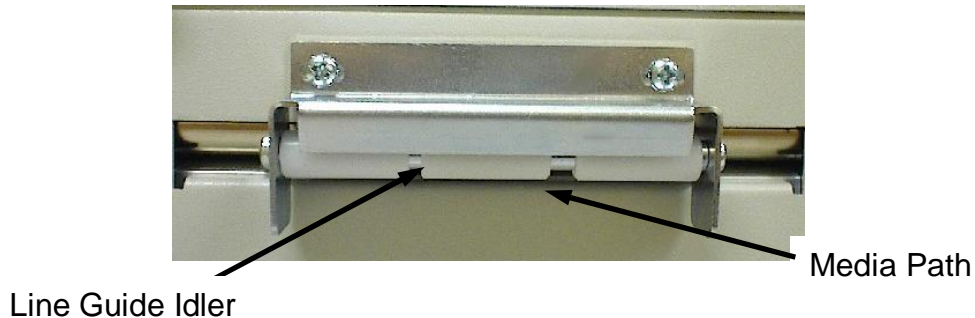

Figure 5 Tag Bracket
1. Feed the media below the Line Guide Idler (see Figure 5.), located on the back of the printer, until you feel resistance.